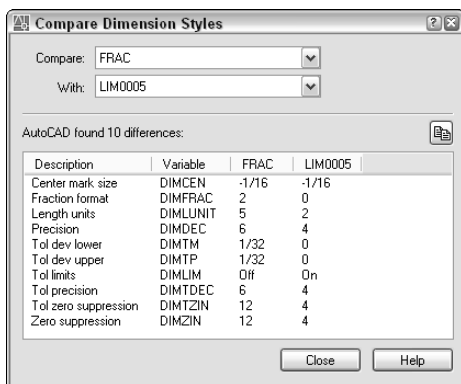

Figure 15-33: The Compare Dimension Styles dialog box enables you to compare the properties of two dimension styles.
1. Choose Dimension Style from the Dimension toolbar, and choose Compare. The Compare Dimension Styles dialog box opens, as shown in Figure 15-33.
2. Save the file as `ab15-05.dwg` in your AutoCAD Bible folder. This is a tension arm for a commercial dryer, as shown in Figure 15-33. ORTHO and OSNAP should be on. Set running object snaps for endpoint, intersection, and center. The Dims layer is current. If the Dimension toolbar is not visible, right-click any toolbar and choose Dimension.